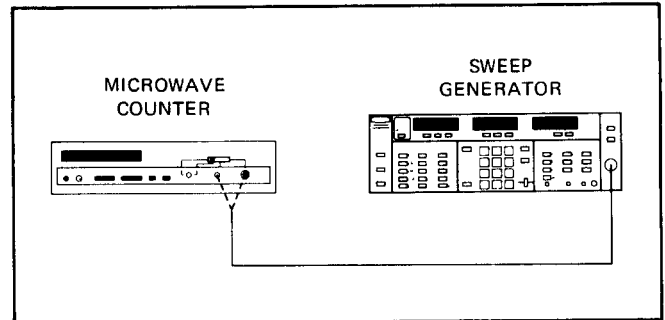

Figure 4-1. Test Equipment Setup for Frequency Accuracy Tests
1. Connect test equipment as shown in Figure 4-1, and turn the equipment on.